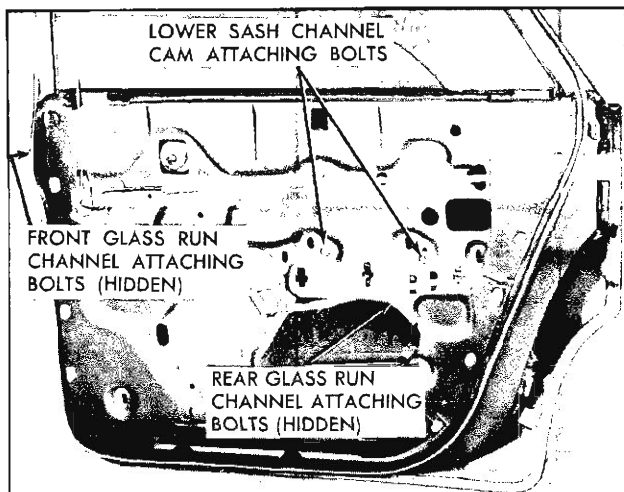

Fig. 54—Rear Door Run Channels and Cam
2. Remove lower sash channel cam attaching screws and disengage cam from sash channel (fig. 54).